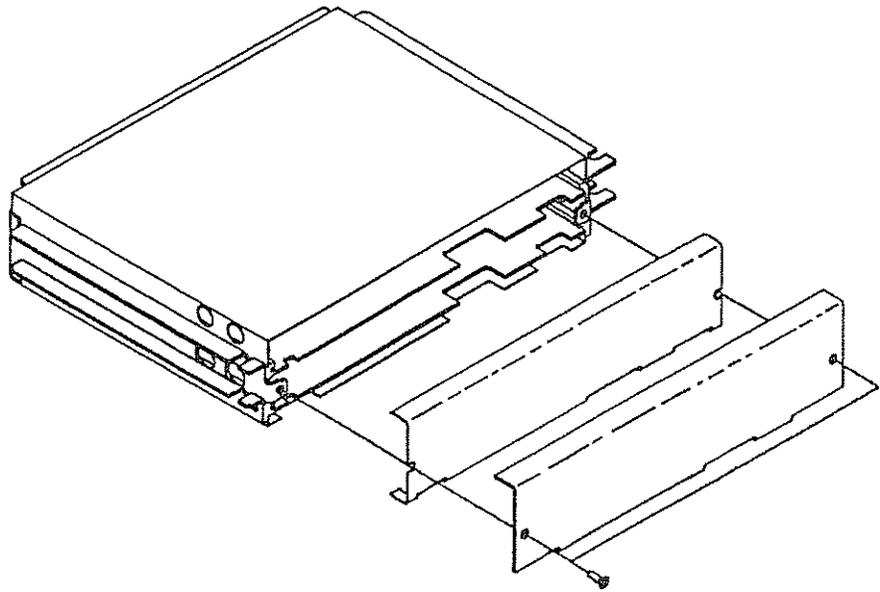

Figure 2-21. A6 Baseband Covers
5. With a #10 TORX® screwdriver, remove the cover to the A6 Baseband Boards Housing Assembly. See figure 2-21.